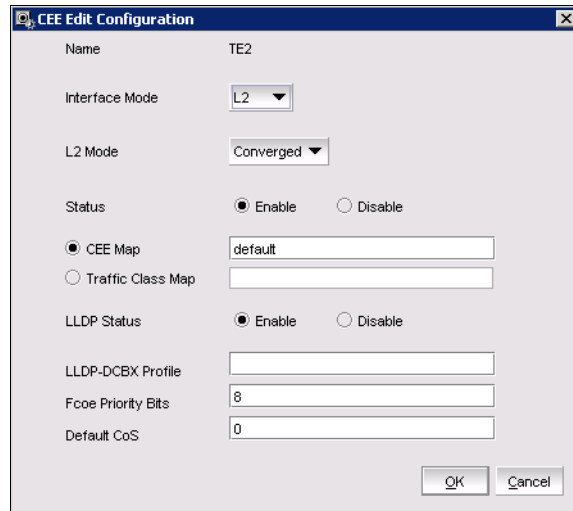

Figure 5-45 CEE Edit Configuration dialog box
- The CEE Edit Configuration dialog box is displayed (Figure 5-45).